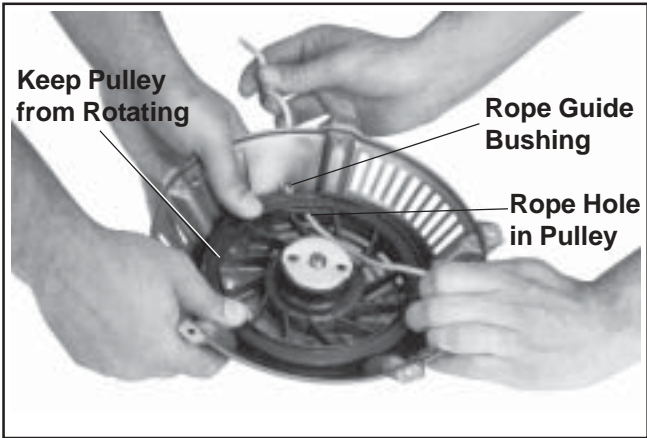

Figure 7-3. Installing Rope.
- 9. Insert the new rope through the rope hole in the starter pulley and the rope guide bushing of the housing. See Figure 7-3.